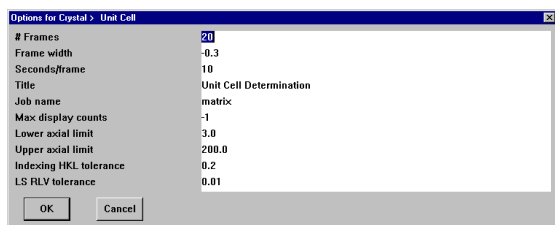

Figure 4-30. Set of default values for unit-cell determination
2. Ensure that the distance shown on the detector scale agrees with the value shown on the screen. Then press Yes. SMART then displays a set of default values for unit-cell determination and asks you to confirm them (Figure 4-30).